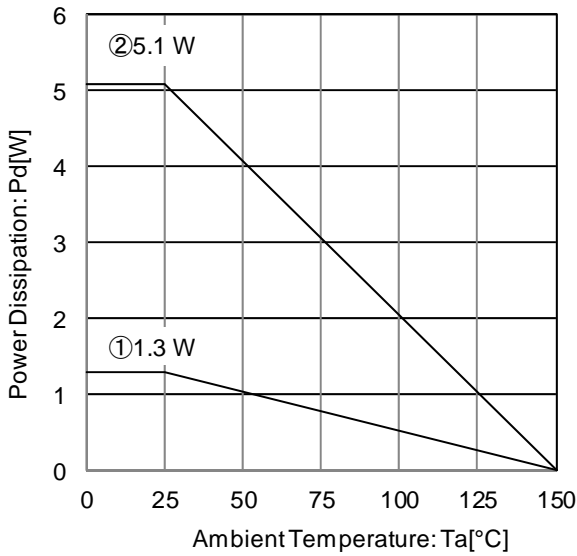

Figure 25. Package Data (TO252-3)
Refer to the heat mitigation characteristics illustrated in Figure 25 when using the IC in an environment of $T_a \geq 25^\circ\text{C}$. The characteristics of the IC are greatly influenced by the operating temperature, and it is necessary to operate under the maximum junction temperature T_{max} .
Figure 25 show the power dissipation and heat mitigation characteristics of the TO252-3 package. Even if the ambient temperature T_a is at 25°C it is possible that the junction temperature T_j reaches high temperatures. Therefore, the IC should be operated within the power dissipation range.
At $T_a = 125^\circ\text{C}$ with Figure 25 ② condition, the calculation shows that ca 100mA of output current is possible at 10.2V potential difference across input and output.
At $T_a = 125^\circ\text{C}$ with Figure 25 ② condition, the calculation shows that ca 120mA of output current is possible at 8.5V potential difference across input and output.